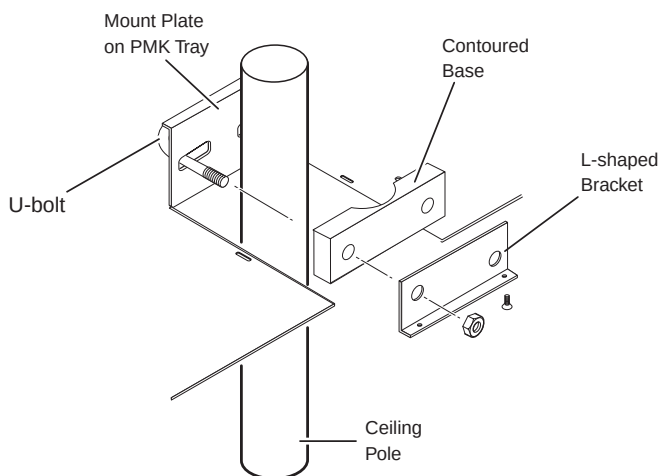

Figure 2-5 — U-bolt attachment
8. Pass the two legs of the U-bolt through the slotted holes in the back of the mounting plate, around the mounting pole, through the holes in the rubber contoured base, and through the holes in the L bracket (see figure 2-5 below).